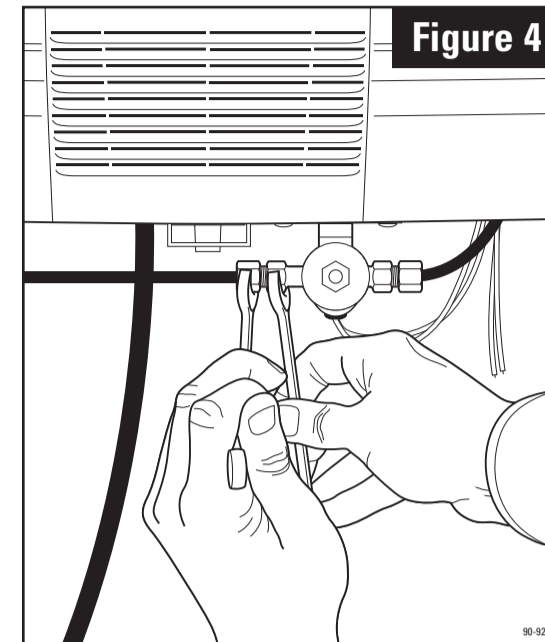

Figure 4
- Connect tubing from the saddle valve to the inlet side of the solenoid valve using 1/4" O.D. copper tubing (not furnished). **DOUBLE WRENCH TO PREVENT LEAKING!** (See Figure 4)